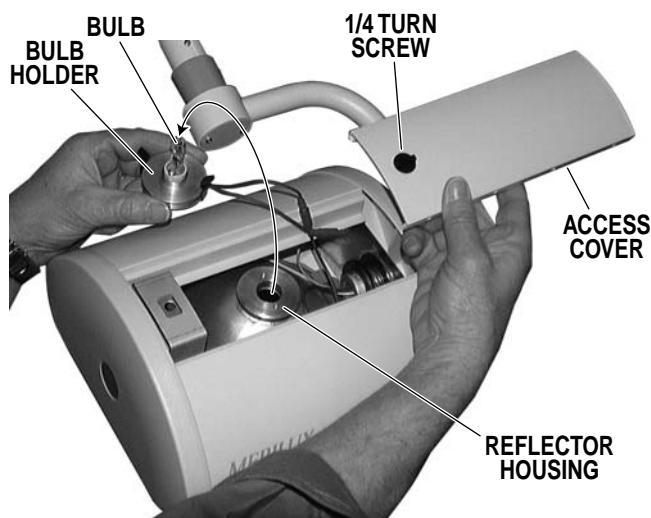

Figure 3.
2. Loosen the 1/4 turn screw and remove the lighthead access cover. See figure 3.